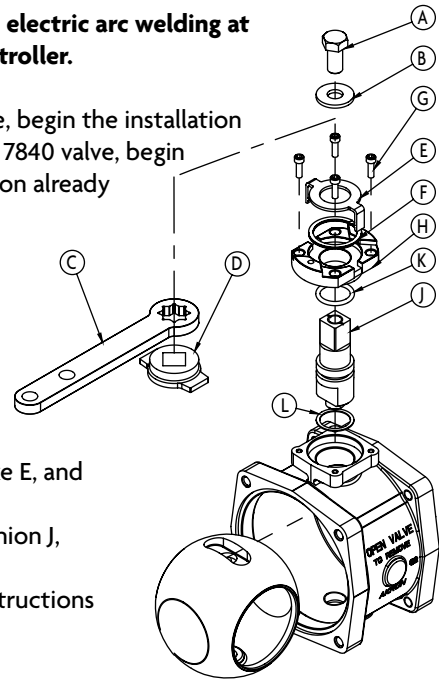

Fig 1
- Remove the hex head screw A (Fig. 1), washer B, handle C, stop plate D, bearing brake E, and wave spring F. They are not needed and can be discarded.